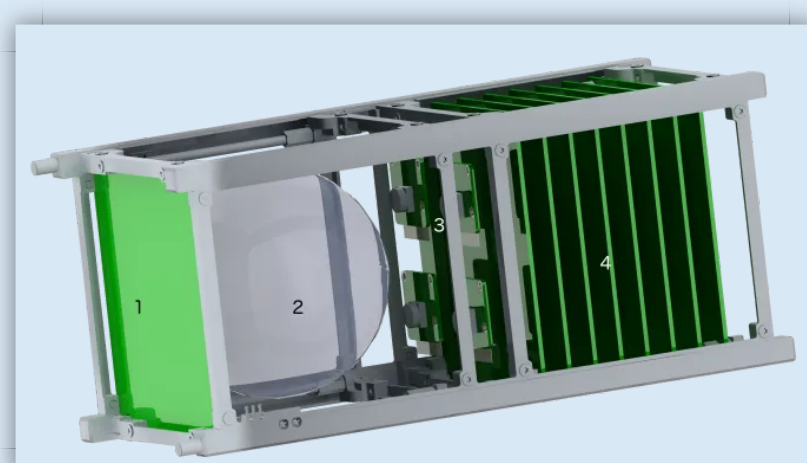

Figure 1: Rendering of a possible arrangement of the payload inside a 2U CubeSat
To place all the necessary components of the satellite-bus inside a CubeSat, additional to the payload, the CubeSat needs to be at least two units long (2U). Figure 1 shows a rendering of a possible arrangement of the PIV payload and the satellite-bus with (1) being an illumination source for the tank, (2) an 80mm spherical, translucent tank, (3) the four cameras needed for PIV and (4) the main electronic stack of the satellite bus.